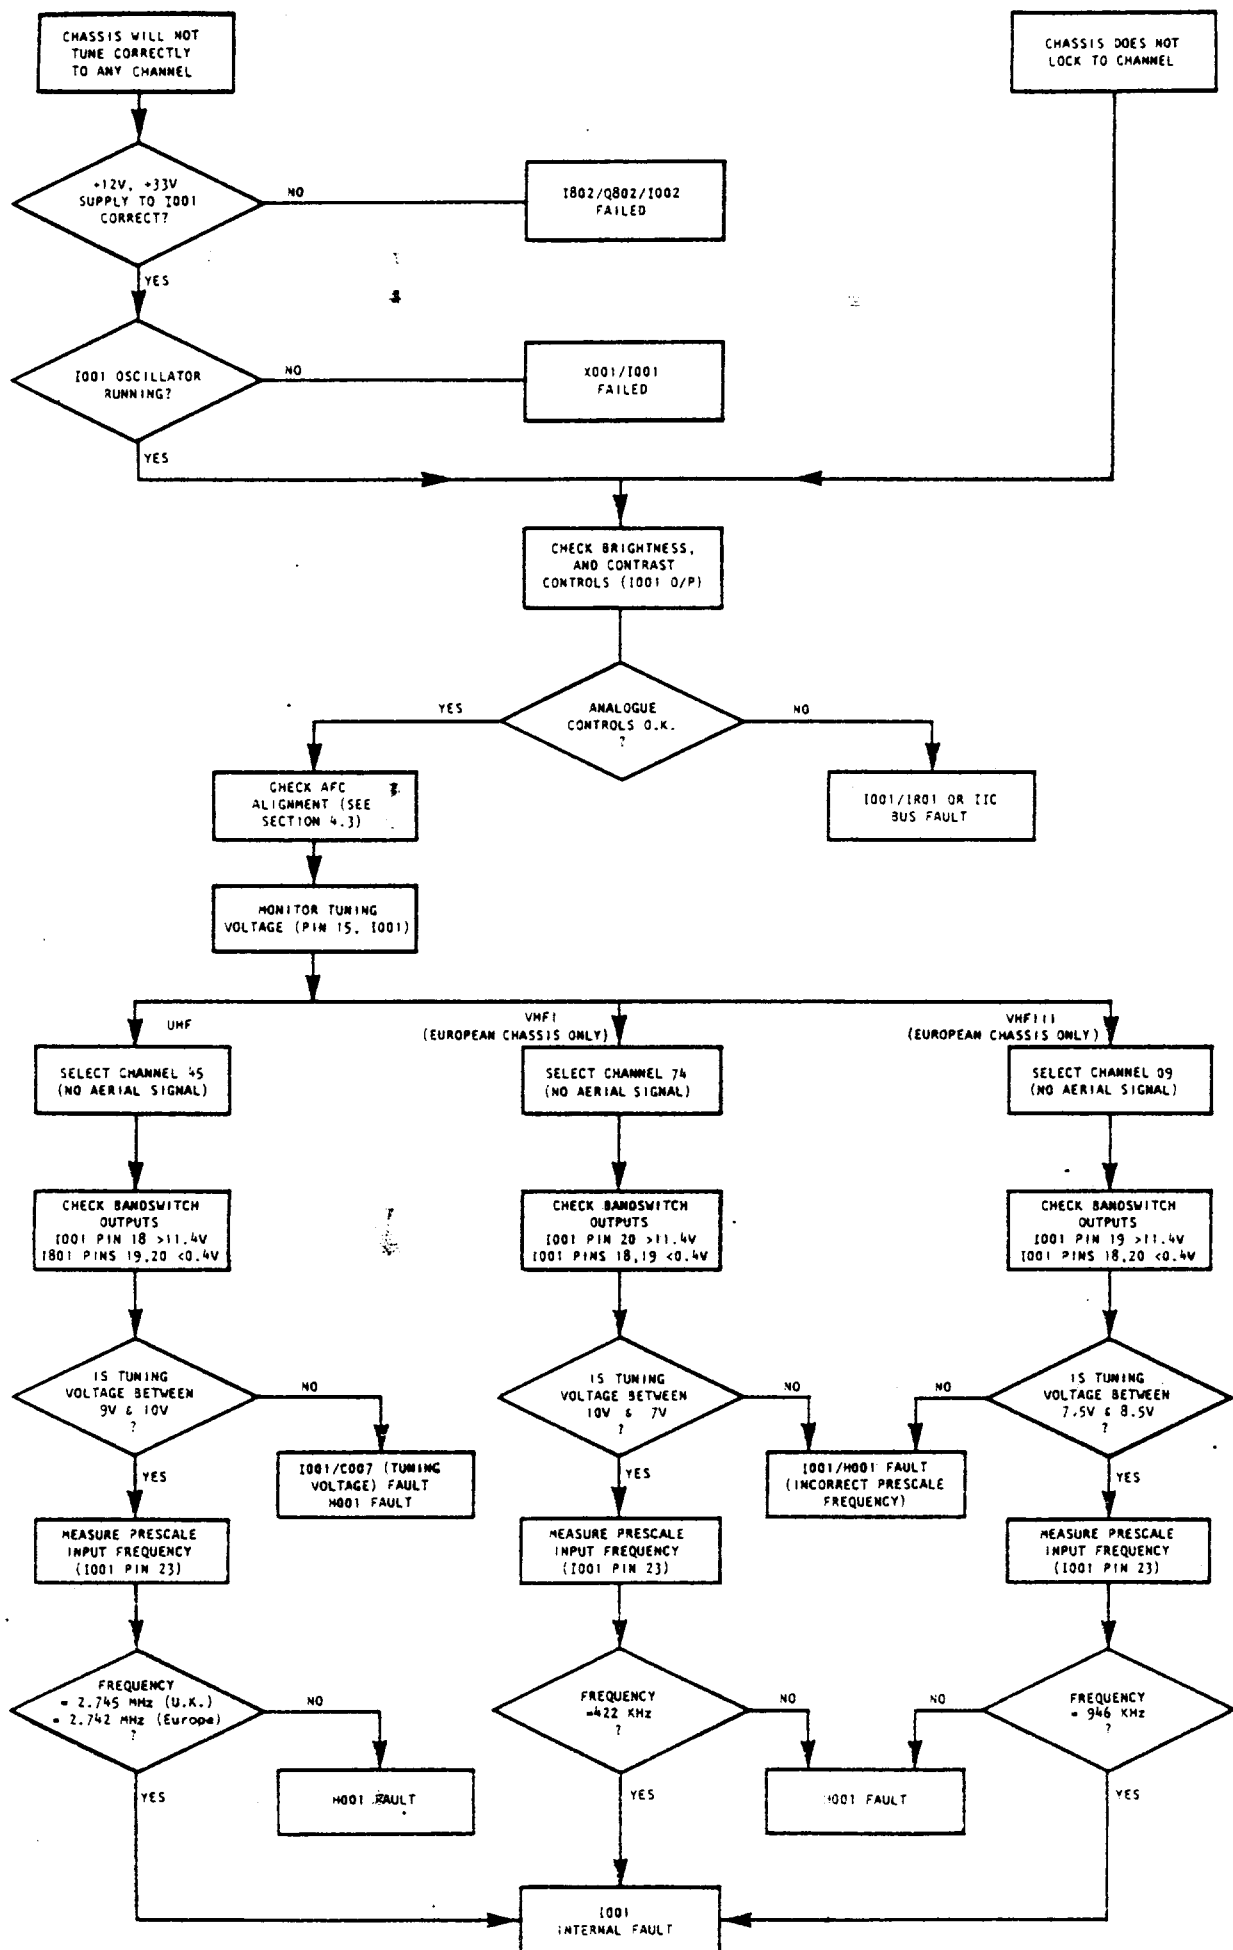

Fig 3.6 Fault Finding Chart - Tuning System
- 3.3 Tuning and ~~Control~~ System - including fault finding charts (Figs 3.6 & 3.7).